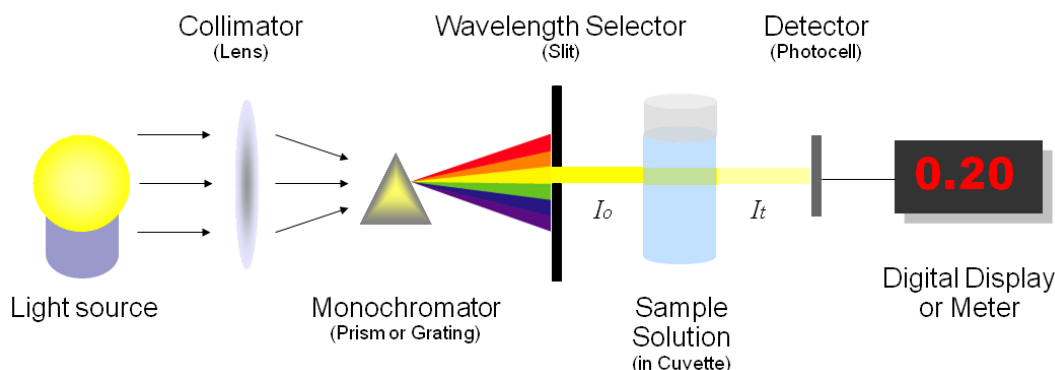
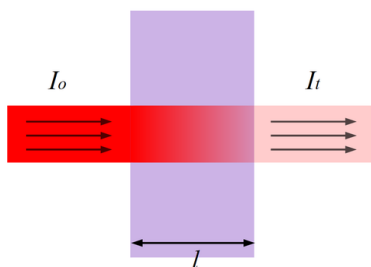

Figure 1: Basic structure of spectrophotometers (CC BY-4.0; Heesung Shim via LibreTexts)
Figure 5: Transmittance (CC BY-4.0; Heesung Shim via LibreTexts)
Figure 1 illustrates the basic structure of spectrophotometers. It consists of a light source, a collimator, a monochromator, a wavelength selector, a cuvette for sample solution, a photoelectric detector, and a digital display or a meter. Detailed mechanism is described below. Figure 2 shows a sample spectrophotometer (Model: Spectronic 20D).
- **Spectrometer:** It produces a desired range of wavelength of light. First a collimator (lens) transmits a straight beam of light (photons) that passes through a monochromator (prism) to split it into several component wavelengths (spectrum). Then a wavelength selector (slit) transmits only the desired wavelengths, as shown in Figure 1.
- **Photometer:** After the desired range of wavelength of light passes through the solution of a sample in cuvette, the photometer detects the amount of photons that is absorbed and then sends a signal to a galvanometer or a digital display, as illustrated in Figure 1.
Referring back to Figure 1 (and Figure 5), the amount of photons that goes through the cuvette and into the detector is dependent on the length of the cuvette and the concentration of the sample. Once you know the intensity of light after it passes through the cuvette, you can relate it to transmittance (T). Transmittance is the fraction of light that passes through the sample. This can be calculated using the equation:
Where absorbance stands for the amount of photons that is absorbed. With the amount of absorbance known from the above equation, you can determine the unknown concentration of the sample by using Beer-Lambert Law. Figure 5 illustrates transmittance of light through a sample. The length l is used for Beer-Lambert Law described below.